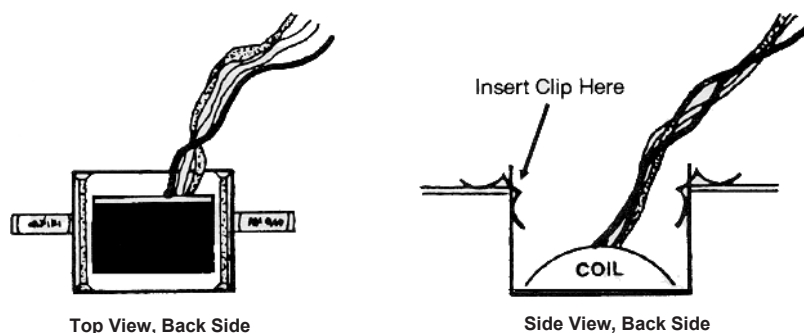

Figure 5-B: Segment base clip replacement
- 3) Take a segment base clip from the bag. Mount the detached segment and press the new clip into place. Refer to Figure 5-B and to the other segments in the digit for proper mounting and clip placement.